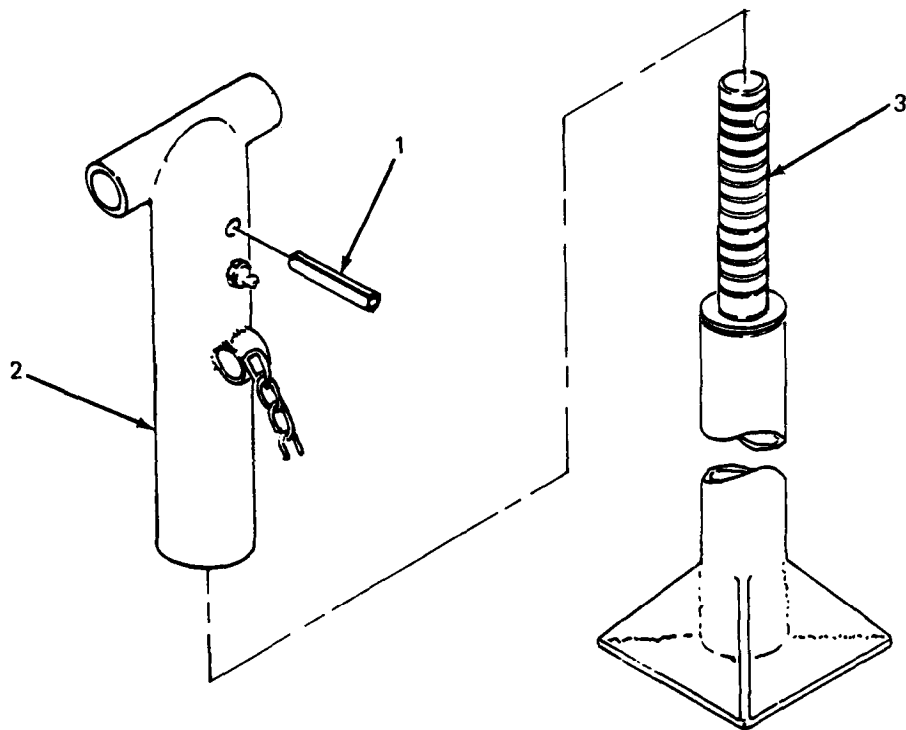

Figure 5-2. Leg Prop Disassembly.
- (a) Position bracket (4) on trailer frame (10) and install three screws (7), three flat washers (8), and three nuts (9). Tighten hardware to secure bracket.
- (b) Lift leg assembly into bracket (4) and secure by inserting angled bar (1) through holes in bracket and boss (2) on upper leg (3).
- (c) Position leg assembly to line up boss (2) on top of leg with pivot holes in bracket (4). Insert pivot shaft (6).
- (d) Insert cotter pin (5) in pivot shaft (6) and bend cotter pin legs in opposite directions.
- (e) Pull out angled bar (1) to unlock leg prop assembly.
- (f) Swing leg prop assembly up into traveling position and secure by inserting angled bar (1) through holes in bracket (4) and boss (2) on upper leg (3).
b. Leg Prop Assembly Repair. (See figure 5-2.) Repair of the leg prop assembly is limited to welding and repainting. However, partial disassembly is possible to facilitate repair. If required, repaint in accordance with MIL-T-704, Type F, color Green No. 383 of MIL-C-46168.
- (b) Clamp leg prop assembly in vise with spring pin (1) facing up.
- (c) Using suitable drift, drive spring pin (1) out of upper leg (2) and remove leg base (3).
- (a) Clamp upper leg (2) in vise with spring pin hole facing up.
- (b) Insert leg base (3) into upper leg (2) and turn leg base until hole in screw lines up with hole in upper leg.
- (c) Install spring pin (1) to secure leg base (3) to upper leg (2).
- (d) Install leg prop assembly on trailer (paragraph 5-2, a. (2)).